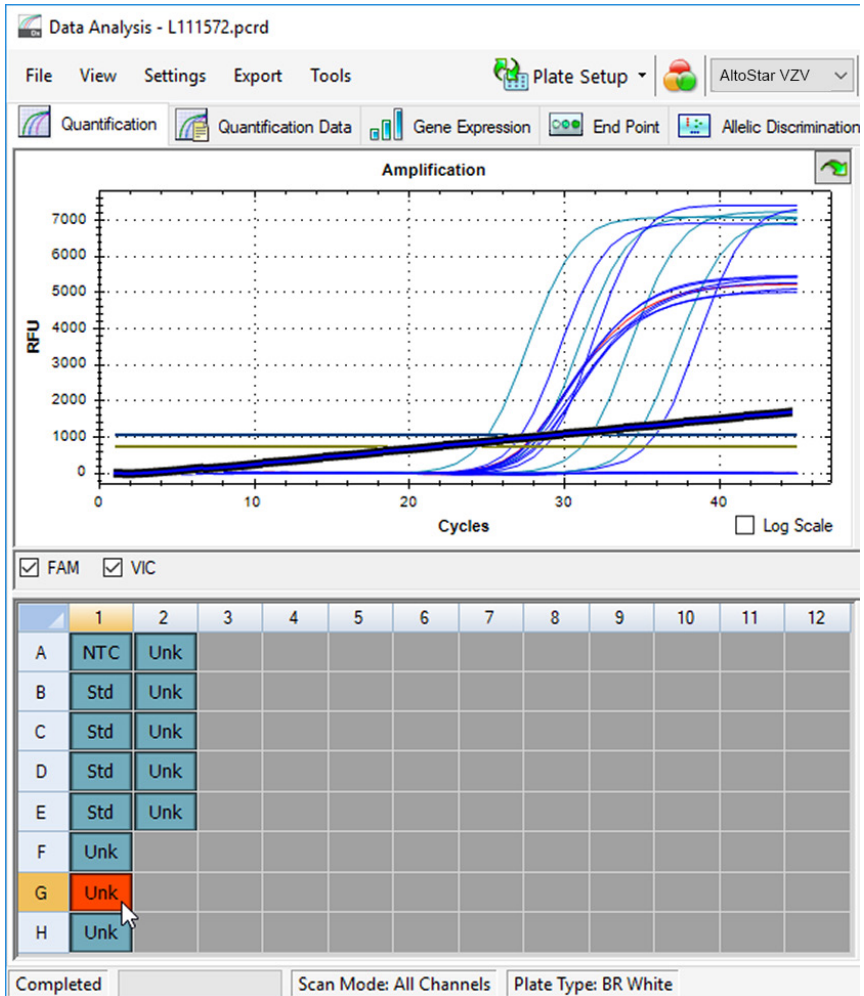

Figure 6: Data Analysis window: irregular PCR signal
- Identify wells with irregular PCR signals (linear signal increase, signal spikes, etc.) in any of the FAM™ (VZV target) and the VIC™ (IC) detection channels (see figure 6).